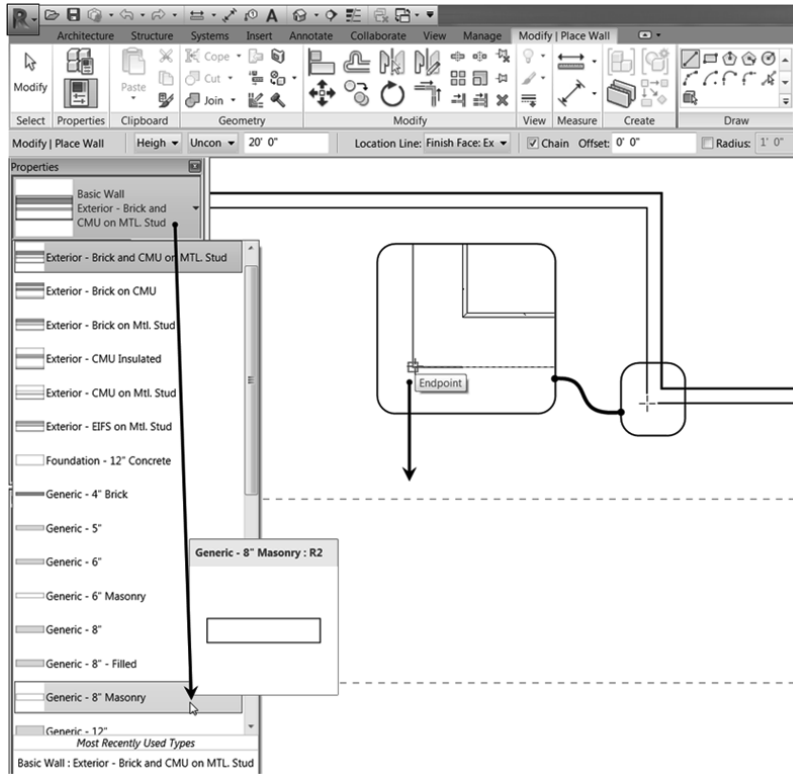

FIGURE 2.21: Start drawing the 8" (200 mm) CMU elevator shaft in the corner indicated here. Turn on Thin Lines if you need to.
1. Open or make sure you're in Floor Plan Level 1. Zoom into the north-east corner of the building, as shown in Figure 2.21.
3. In the Type Selector, select Generic – 8" Masonry, as shown in Figure 2.21. (Metric users use the Generic – 225 mm Masonry wall.)
4. For the starting point, pick the corner as shown in Figure 2.21. The wall will probably be in the wrong orientation, so if necessary, tap the spacebar to flip the wall's orientation.